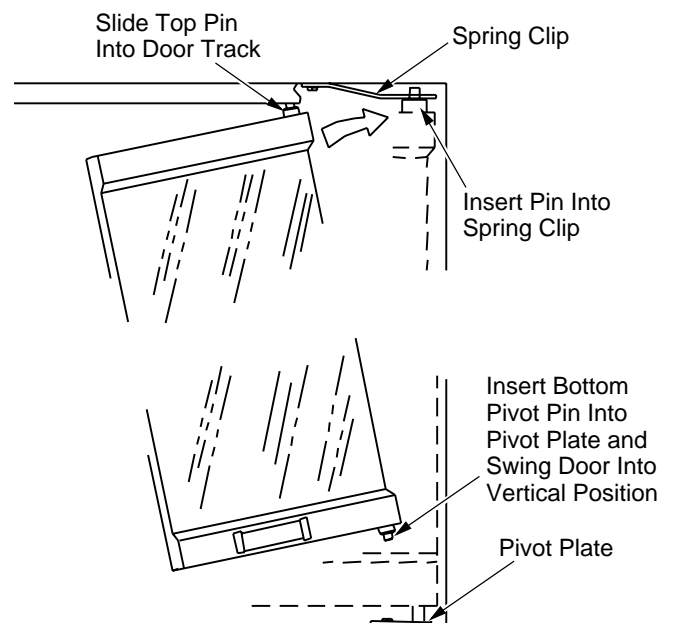

Figure 33 - Installing Optional Glass Door
2. With the handle facing the center of the firebox opening, insert the lower pivot pin on the glass door panel into the hole in pivot plate on the bottom edge of the fireplace opening (see Figure 33).
4. Tilt the glass assembly fully vertical until the outer pivot pin snaps into the mounting hole in the upper spring clip (see Figure 33).